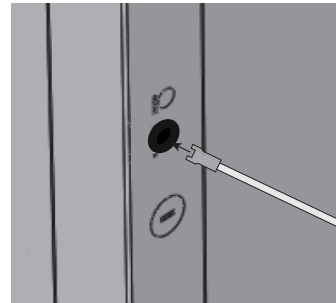

FIG. 1
15. Route the display cable through the knockout and into the unit as shown in Figure 1.
3. Place bottle probe securely into bottle as seen in Figure 1.